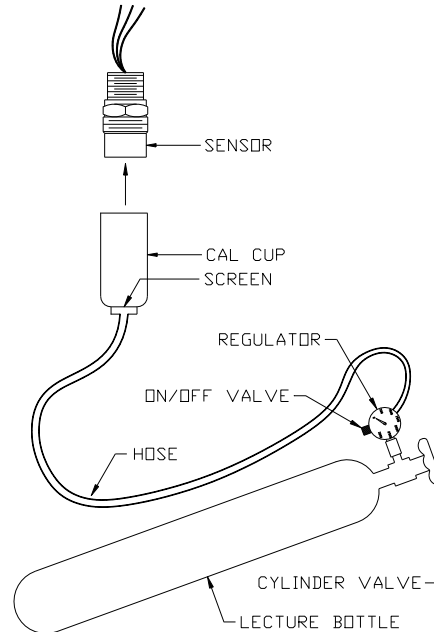

Figure 31: Portable Purge Calibration Equipment
- **4-20mA instrument:** The Operation Mode display may appear in one of several formats, depending on the instrument that is connected to it. An example set of displays is shown in Figure 31